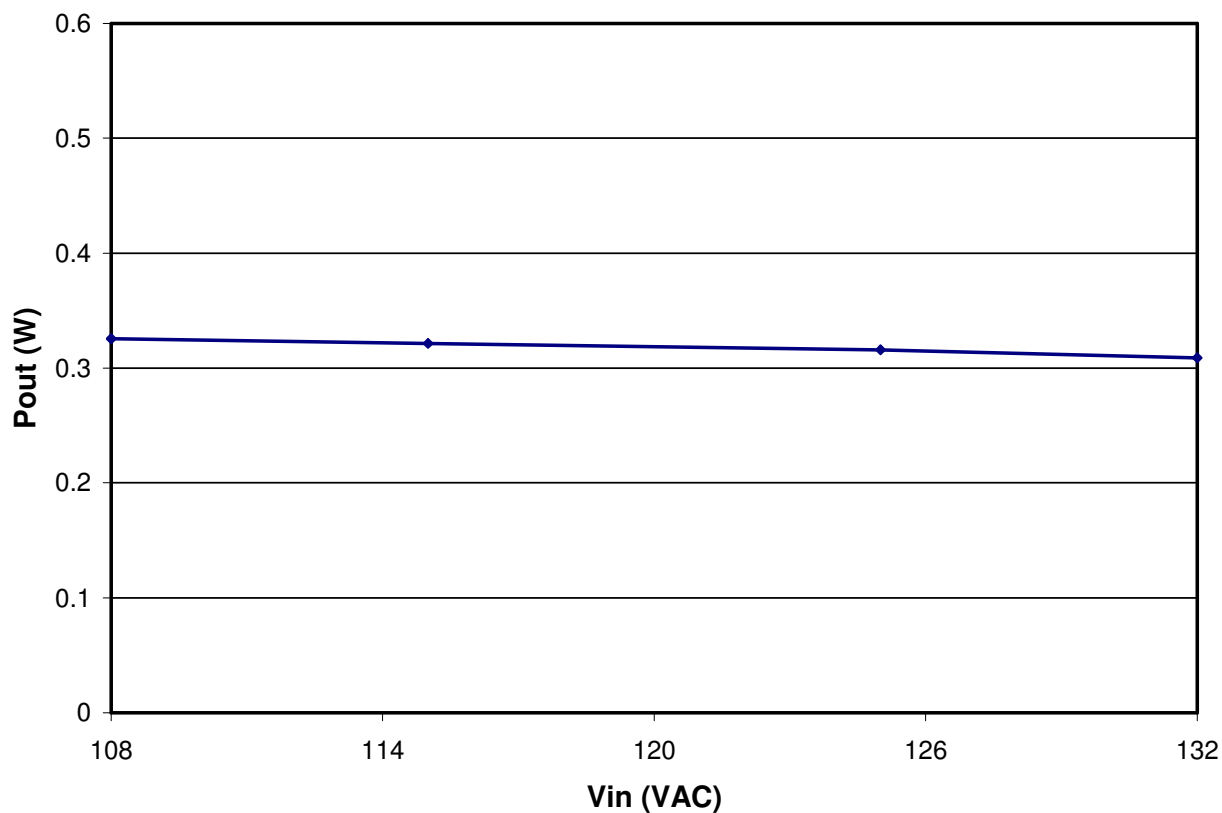

Figure 15 – Available Power Output at 5 V Load When Remote Off (Main supply is off).
Table 3: Data of Po (W) Plotted in Figure 15.